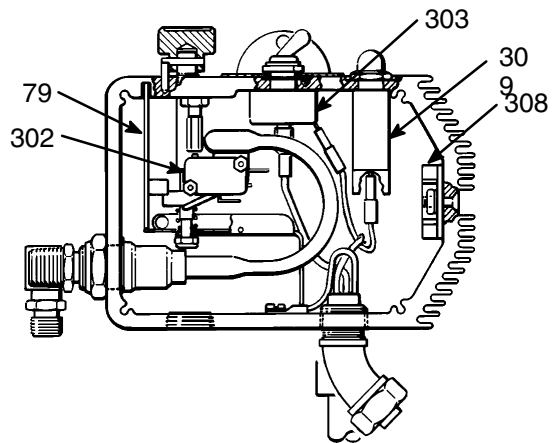

Fig 20-2
Disconnect the two leads from the motor to the bridge (308). Refer to Fig 20-2.